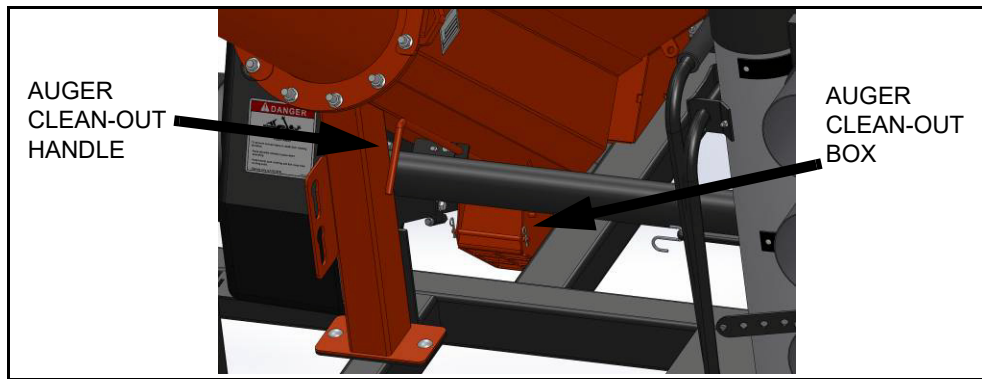

Figure 4.17 Auger Clean-Out Box
5. Open the auger clean-out door by pulling the handle located under the first auger section tube and check to ensure the grain drains out and does not bridge around the mesh (see Figure 4.17).